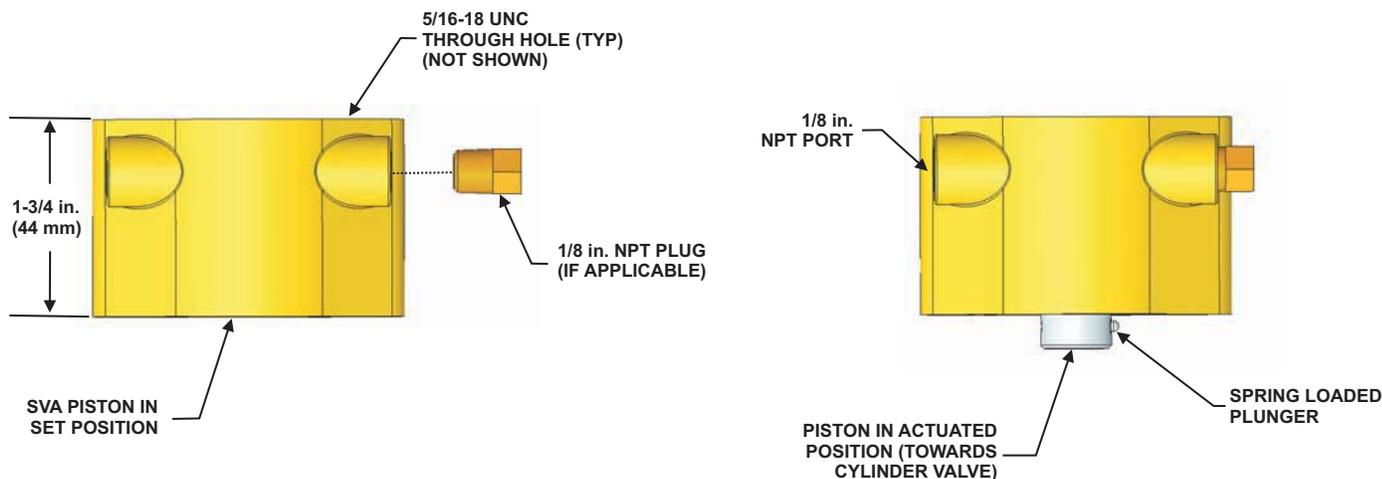

Figure 5-11. System Valve Actuator (SVA)
4. The bottom surface of the piston must be in the body of the SVA. If it is in the released position, push the spring loaded plunger in while pushing the piston into the body of the SVA (see Figure 5-11).